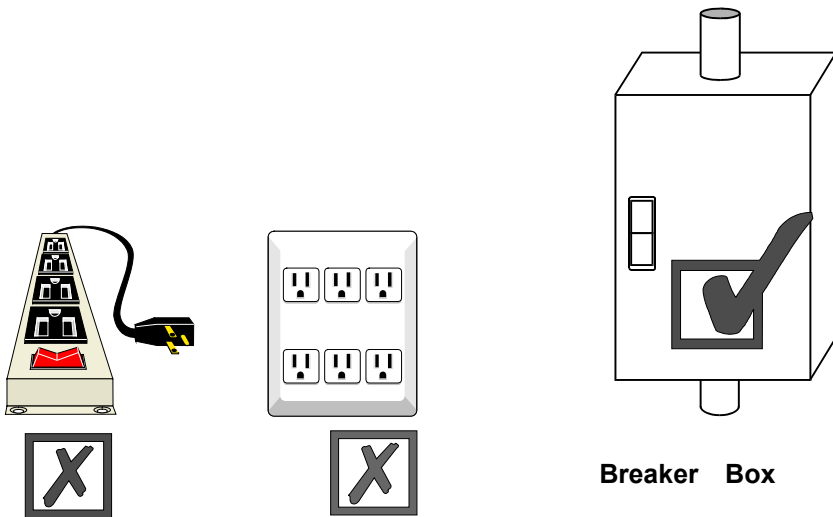

Figure 11
2. Please connect the 220V power of nearest switch box to UPS input terminal block. (Fig.11)